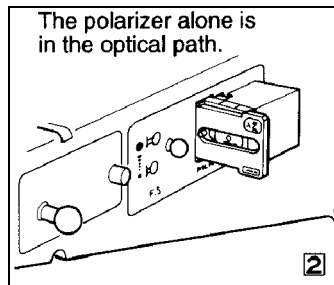

Figure 1-28
- To change the compensation range in differential interferometer microscopy, switch from sensitive polarization to simplified polarization microscopy. (Figure 1-28 below)